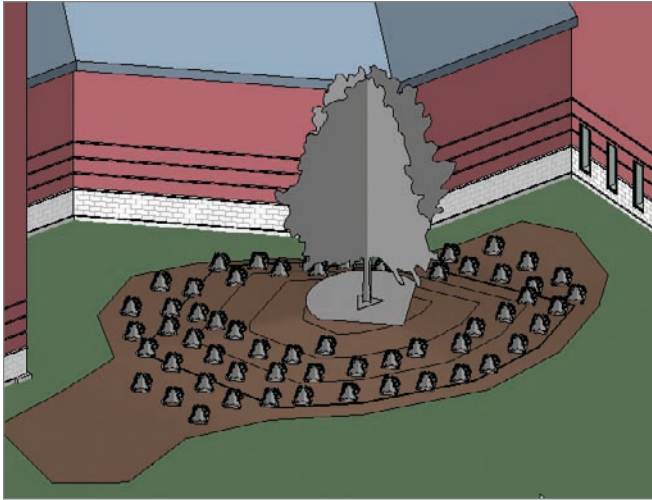

FIGURE 18.16 The trees and shrubs on the hill
10. Go to a 3D view and compare it to that shown in Figure 18.16.